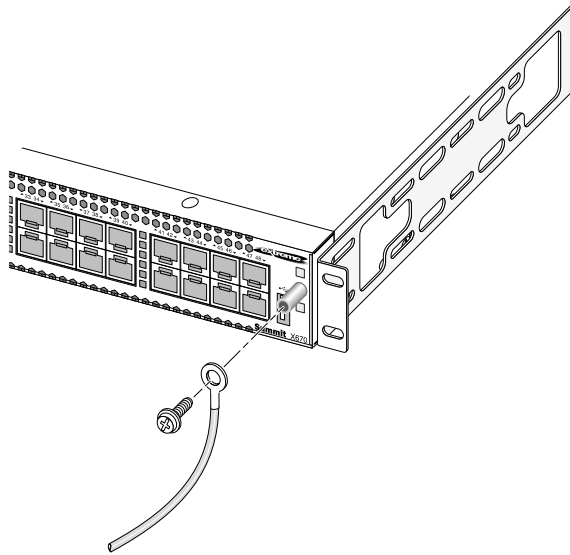

Figure 293: Grounding a Summit X670 Series Switch
- c Insert the provided M4 screw through the ring terminal and into the grounding stud on the front of the switch (Figure 293: Grounding a Summit X670 Series Switch on page 318).